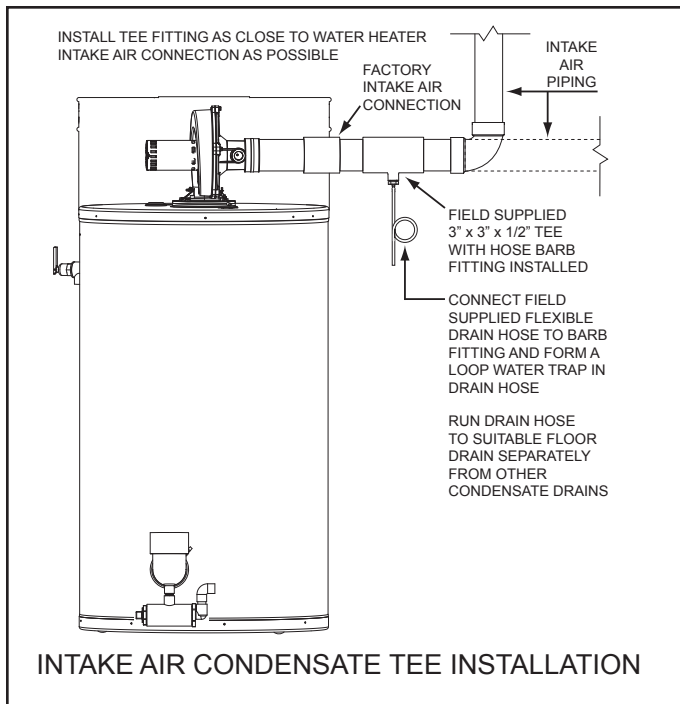

Figure 16
9. A field supplied condensate Tee fitting and drain hose should be installed in the intake air piping near the water heater in colder climates with heavy snow accumulations and in areas that regularly experience high humidity. The drain hose should be routed to an adequate floor drain separate from any other condensate drains. See Figure 16 on page 23.